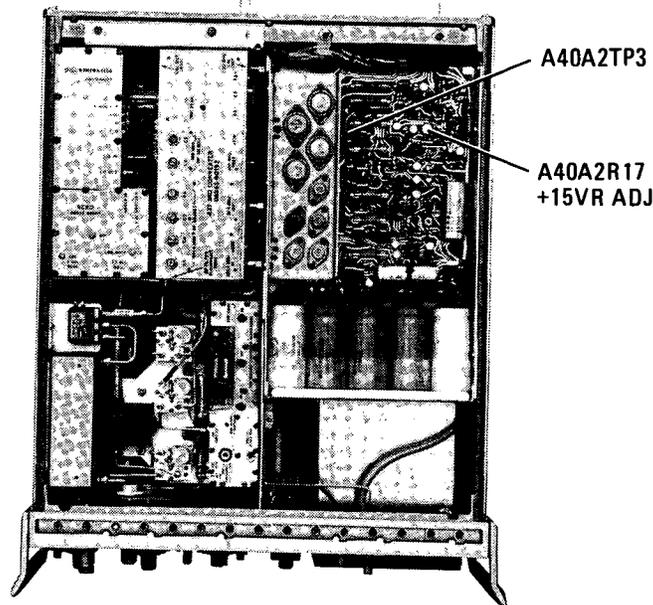

Figure 5-2. A40A2 Adjustment Locations
3. Adjust +15VR ADJ potentiometer A40A2R17 for  $+15.000 \pm 0.005$  Vdc at A40A2TP3 (Figure 5-2).